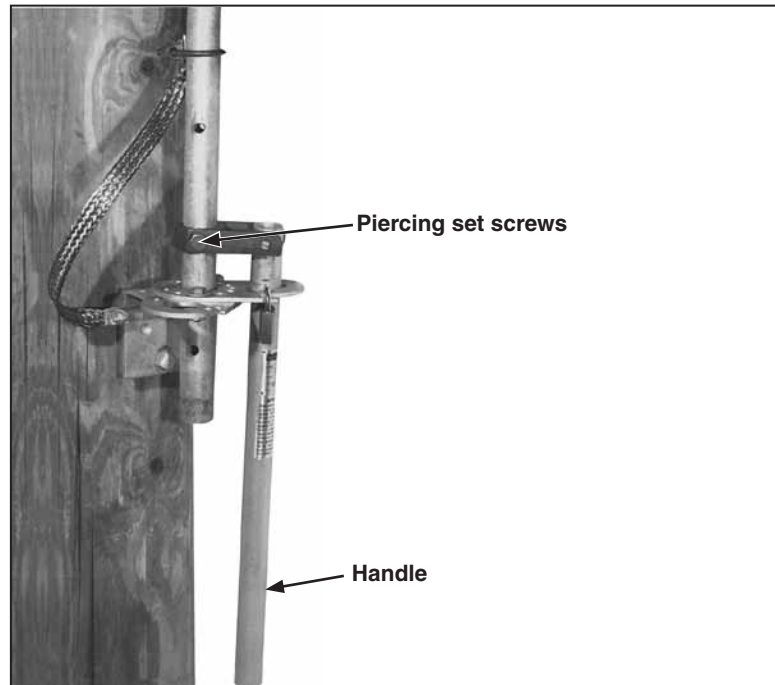

Figure 21. Foot bearing assembly and operating-handle assembly.
- b. Install the operating-handle assembly on the lowest section of vertical operating pipe at the location indicated in the erection drawing. Make certain the cutting tip of the piercing set screw in the operating-handle assembly does not protrude when installing the assembly on the vertical operating pipe. After the operating handle is in place, tighten the piercing set screw on the operating-handle assembly, piercing the pipe, and continue turning until a firm resistance is felt. See Figure 21.